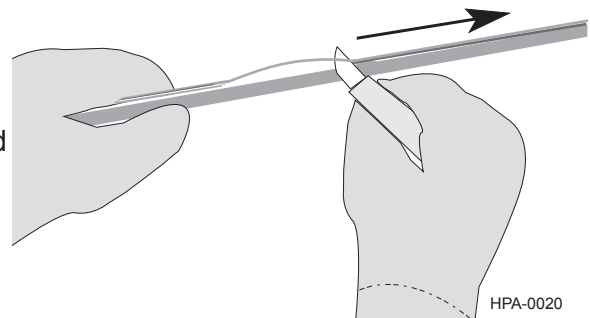

Figure 4
Step 2: Holding the cable in one gloved hand with the toning wire facing up, use a sheath knife to separate the toning wire (Figure 4). Only light pressure is needed to cut the web. Cut with the blade tilted toward the cable to minimize leftover web material on the cable.